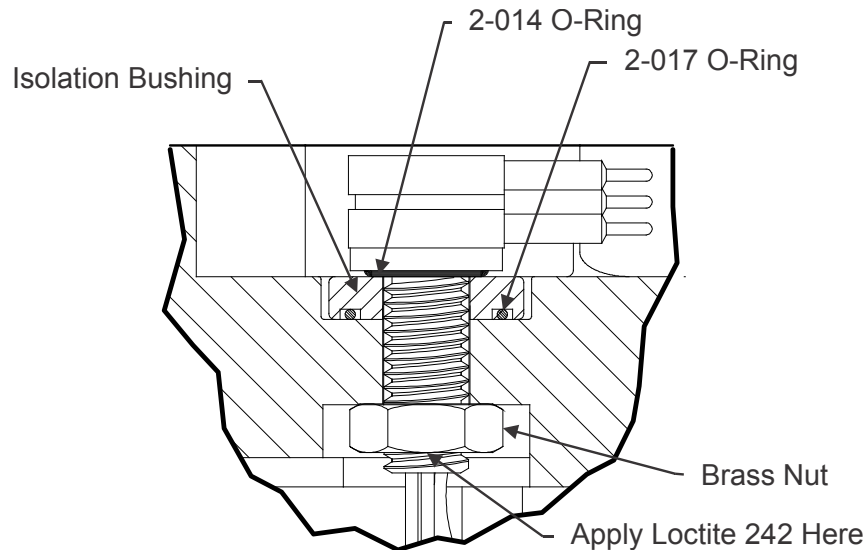

Figure 68. End-Cap Connector with Isolation Bushing
3. Systems with a metal end-cap use an isolation bushing and 2-017 O-ring between the end-cap and the 7-pin connector. Press the new bushing and O-ring onto the end-cap as shown in Figure 68.